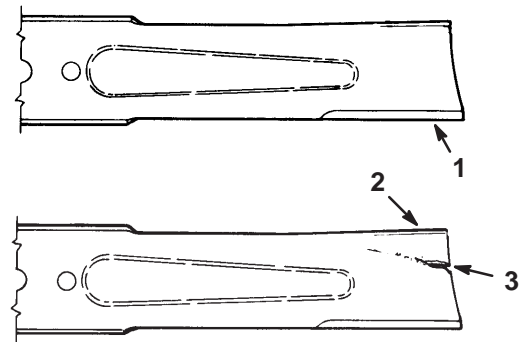

Figure 32
2. Inspect the cutting edges (Fig. 32). If the edges are not sharp or have nicks, remove the blade(s) and sharpen them; refer to Sharpening the Blade(s), page 18.
3. Inspect the blade(s), especially the curved area (Fig. 32). If you notice any damage, wear, or a slot forming in this area (Fig. 32), immediately install a new blade.